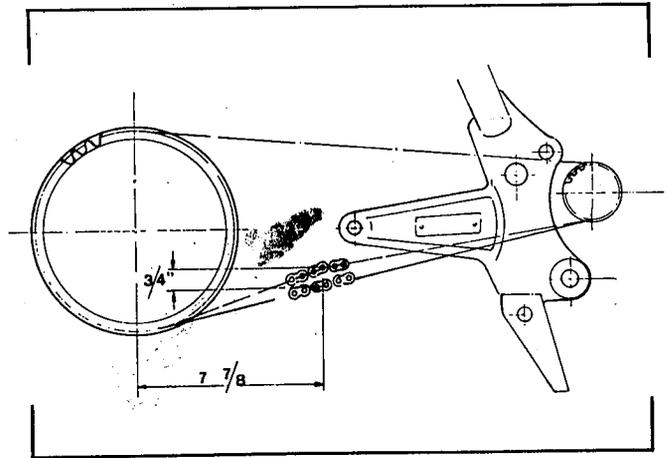

Fig. 22
- d) operate chain tensioners uniformly in order to obtain in the lower portion of chain, at the distance of $7\frac{7}{8}$ " from wheel axis, a vertical arrow of $\frac{3}{4}$ " (see fig. 22).